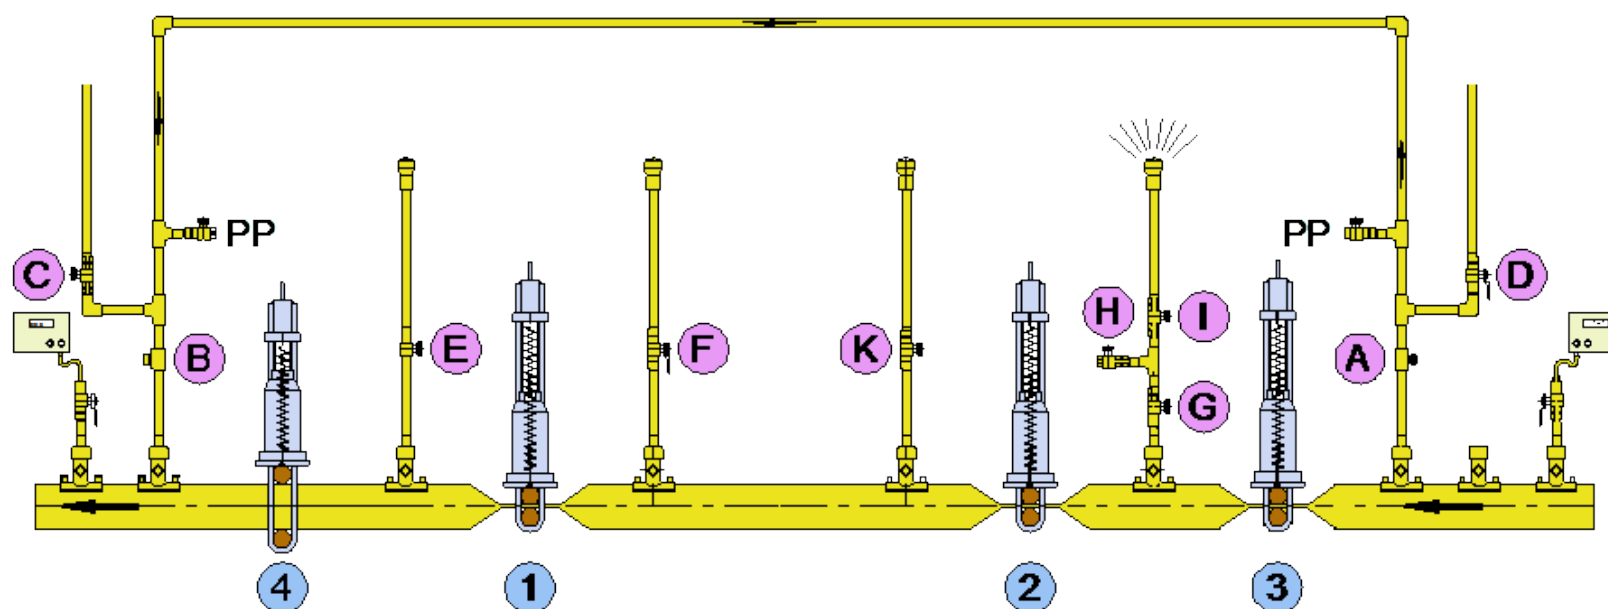

Figure 54- Squeeze-off 3
15. Slowly apply upstream squeeze-off 3, until it reaches its stop see Figure 54.